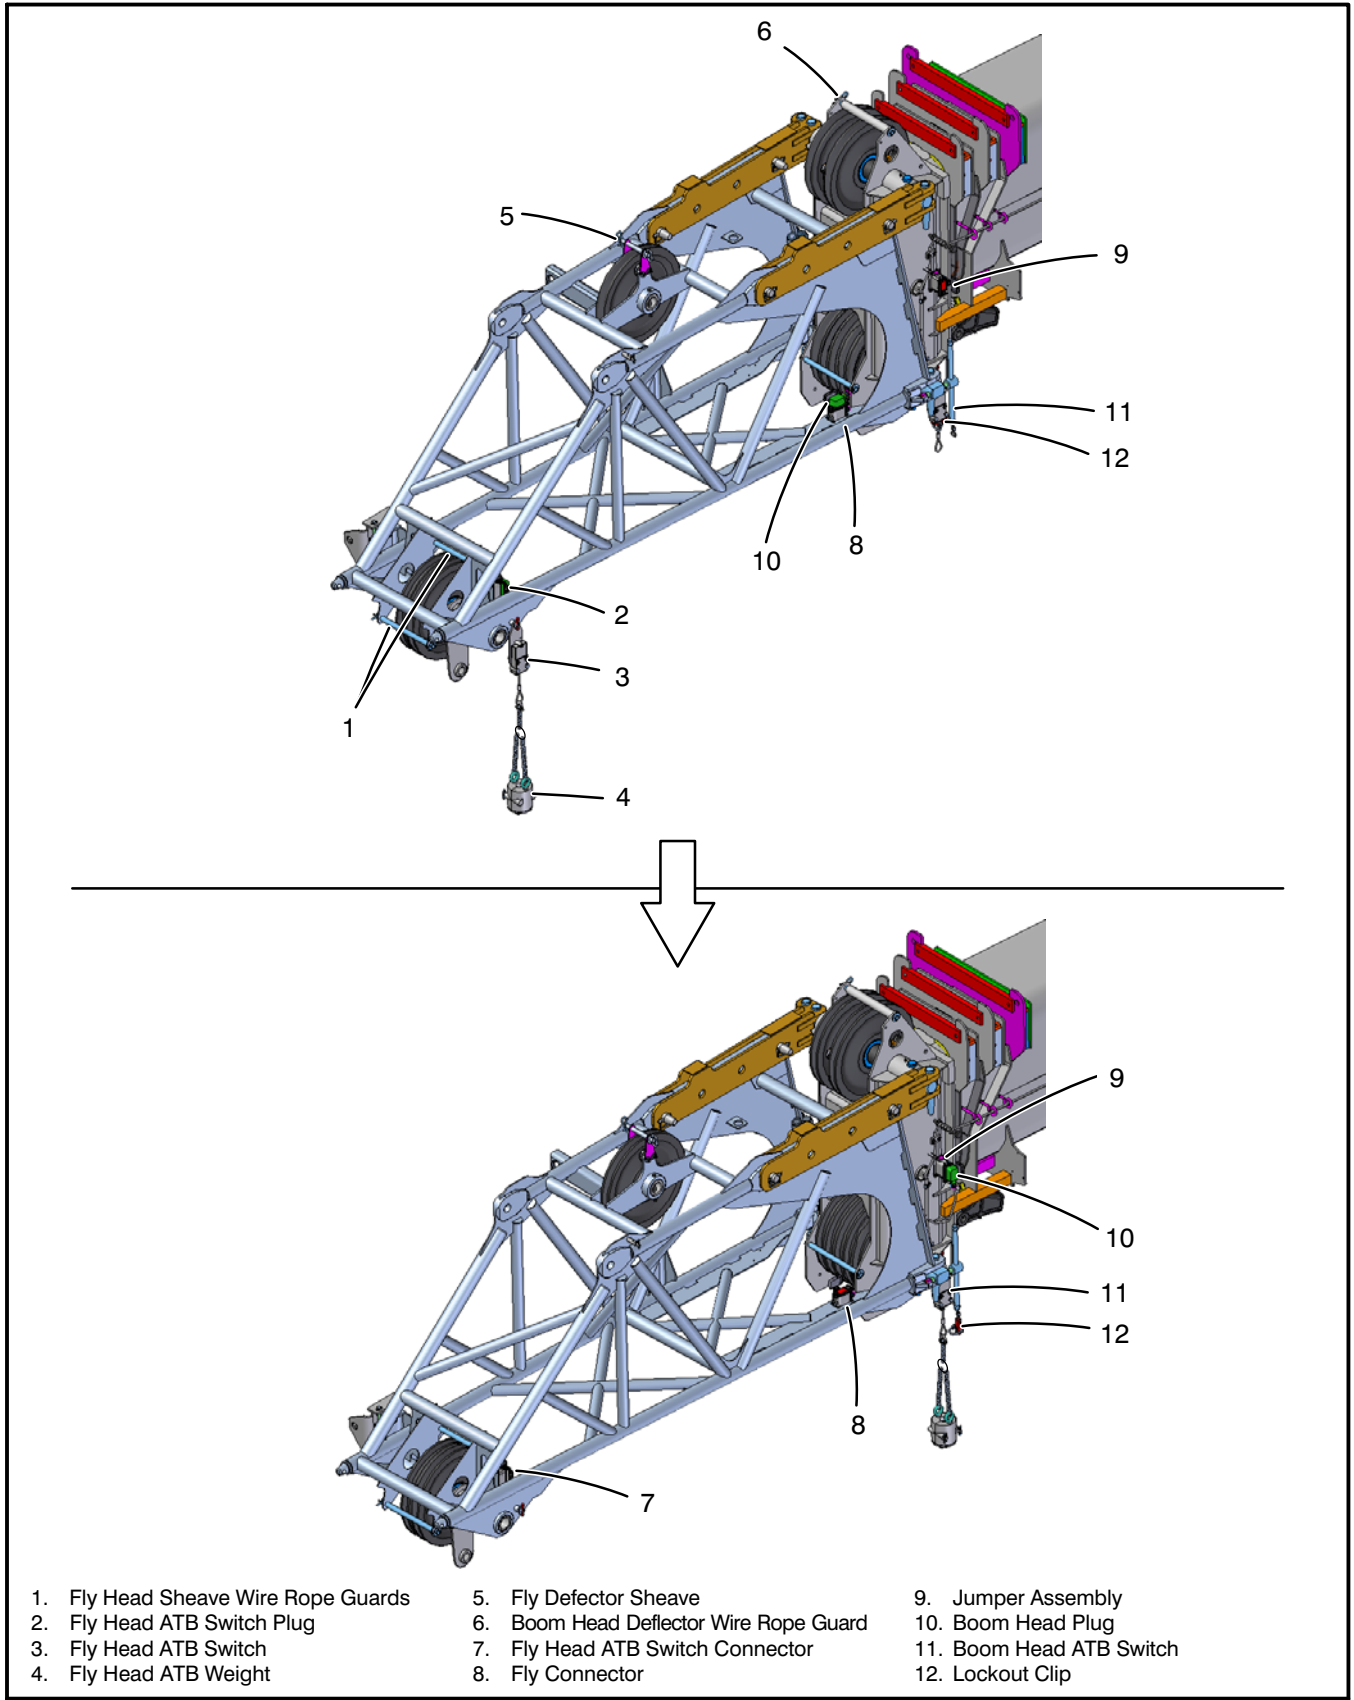

Figure 4–122
- a. Remove the fly tip head ATB weight from the fly ATB switch and install it on the main boom head ATB switch. Refer to Figure 4–122.